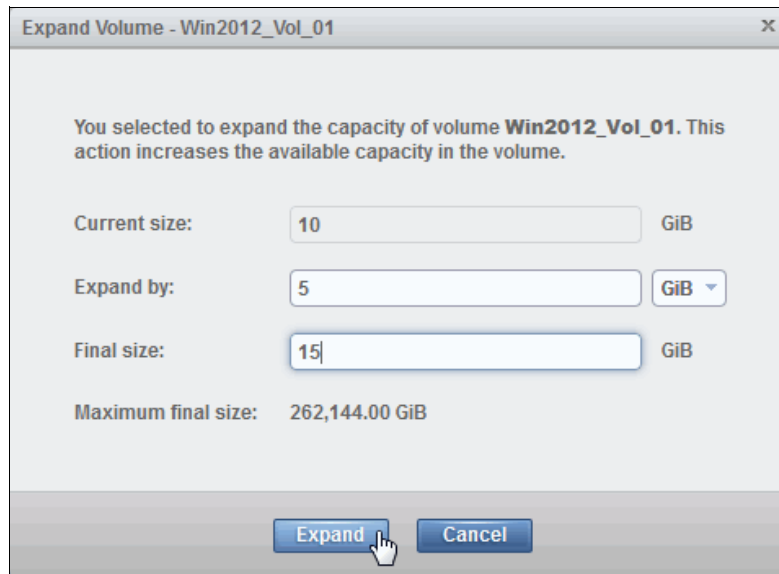

Figure 8-49 Expand Volume pane
2. Enter the new volume size, or by how much the volume should expand, and click **Expand**, as shown in Figure 8-49.